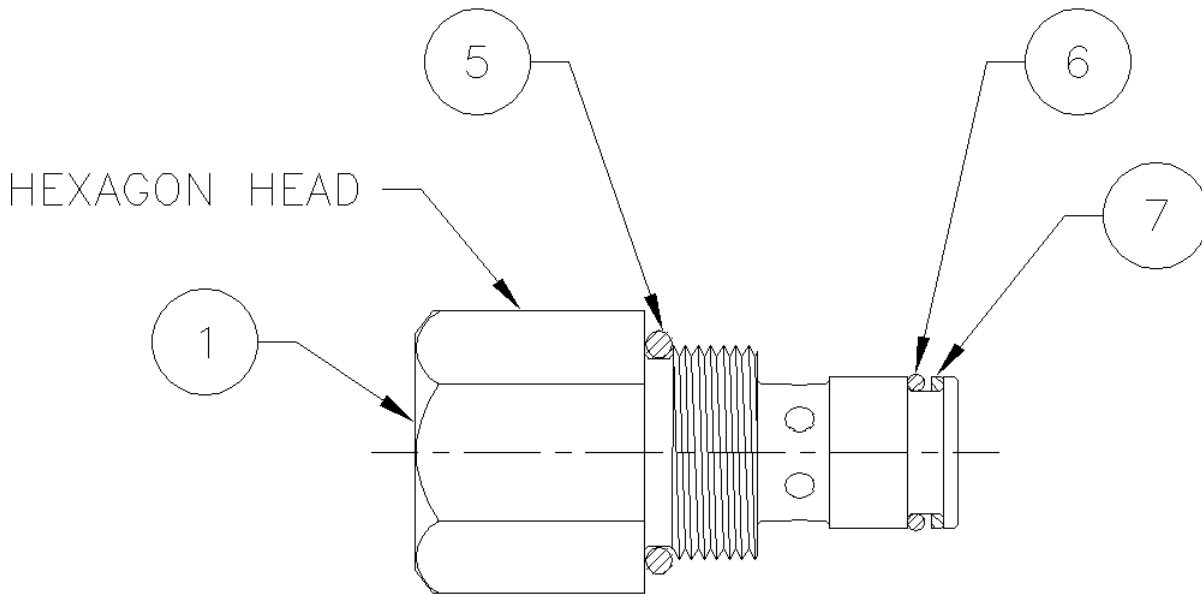

Figure D-1
1. Install the housing seal (5) (Figure D-1) in the groove next to the hexagon head of the plunger housing (1). Place the square backup ring (7) in the groove at the end of the plunger housing (1). Place the o-ring (6) in the same groove as the square backup ring (7) closest to the hexagon head of the plunger housing (1).